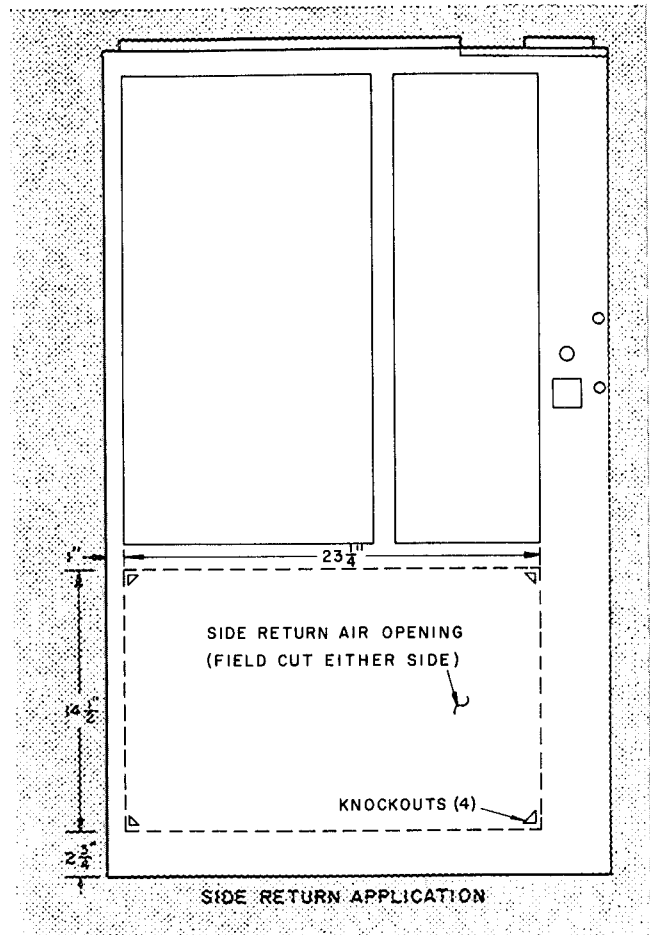

Fig. 2 — Locating Side Return Air Opening
1. Determine where accessory side filter rack will be installed on furnace (left- or right-hand side). Punch out knockouts on side of furnace and field cut return air opening in furnace per dimensions indicated in Fig. 2.